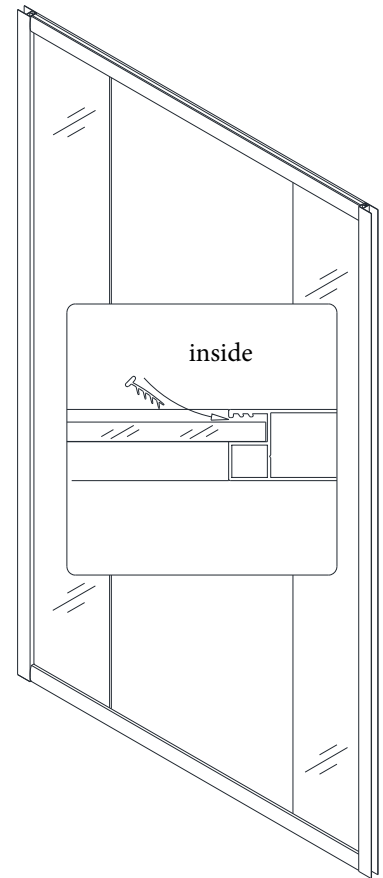

Fig. 7
6. Install the **Single side strips (#09)** in-between the **Stationary glass (#05)** and the **Glass profiles (#01)**. The strips should be inserted on the side that is facing the inside of the shower. (See detail in Fig. 7)
See Fig. 7 for details.